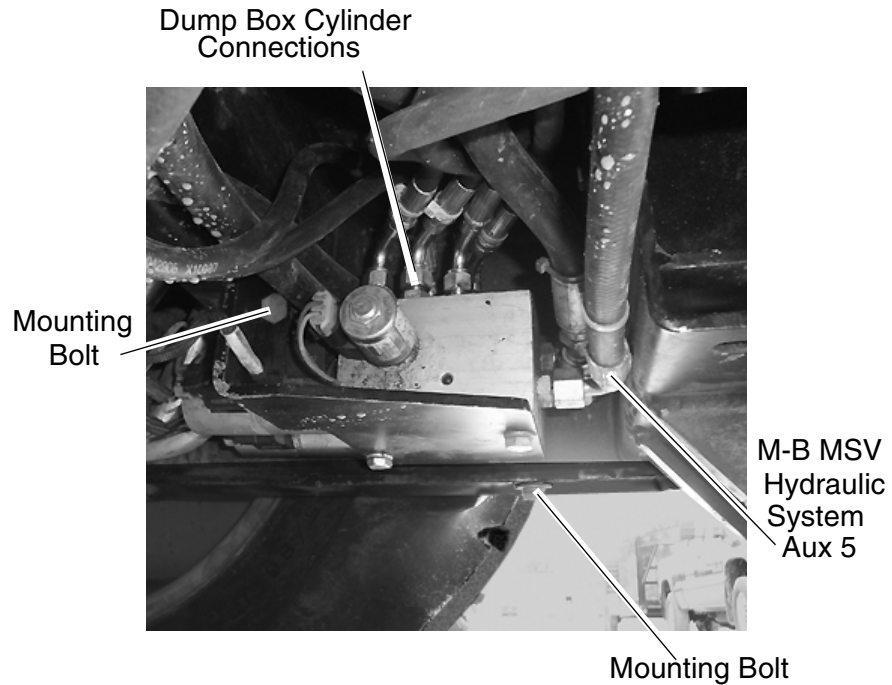

Figure 15
The M-B MSV controls the up/down of the dump box using the Aux 5 hydraulic connections. The dump box is directly connected to the Aux 5 manifold which is located on the frame under the M-B MSV engine (Figure 15).
- a. Remove the rear hydraulic manifold from the frame. Figure 15 shows the two mounting bolts.